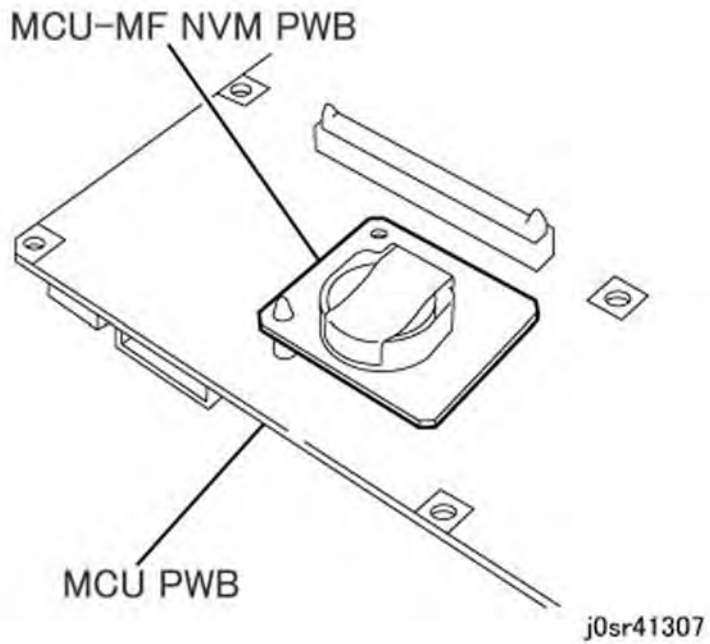

Figure 5 Removing the MCU NVM PWB
8. Remove and retain the MCU NVM PWB (Figure 5).